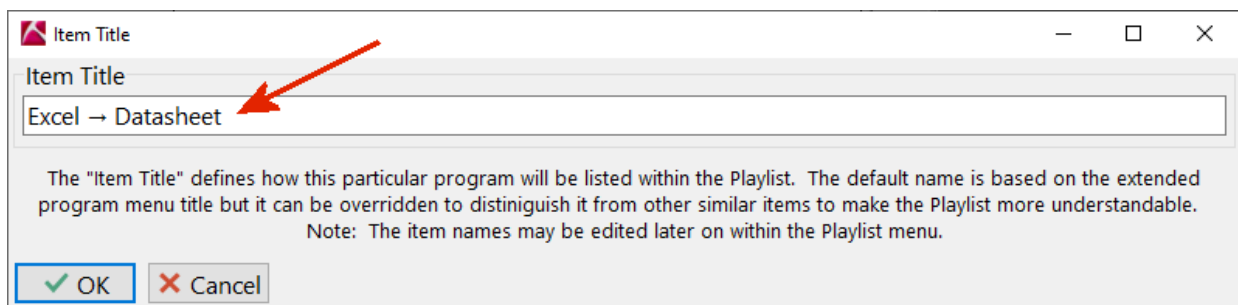
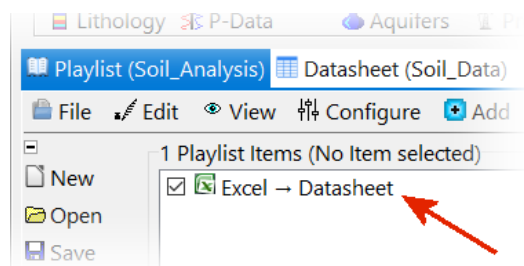

Figure 14
Figure 15
- Enter the title for this step (Figure 14) and the Excel import process and all of the associated menu settings will be added to the Playlist (Figure 15). Now, if you want to reproduce the steps within this exercise, just press the "Continue" button at the base of the Playlist.